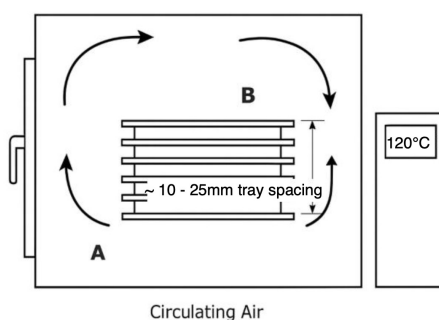

Fig. 11- Pre-Drying Conditions (A) Circulating Air (B) Tenopex® PC Sheets
- Use a circulating hot-air oven with dehumidified air. See Fig. 11